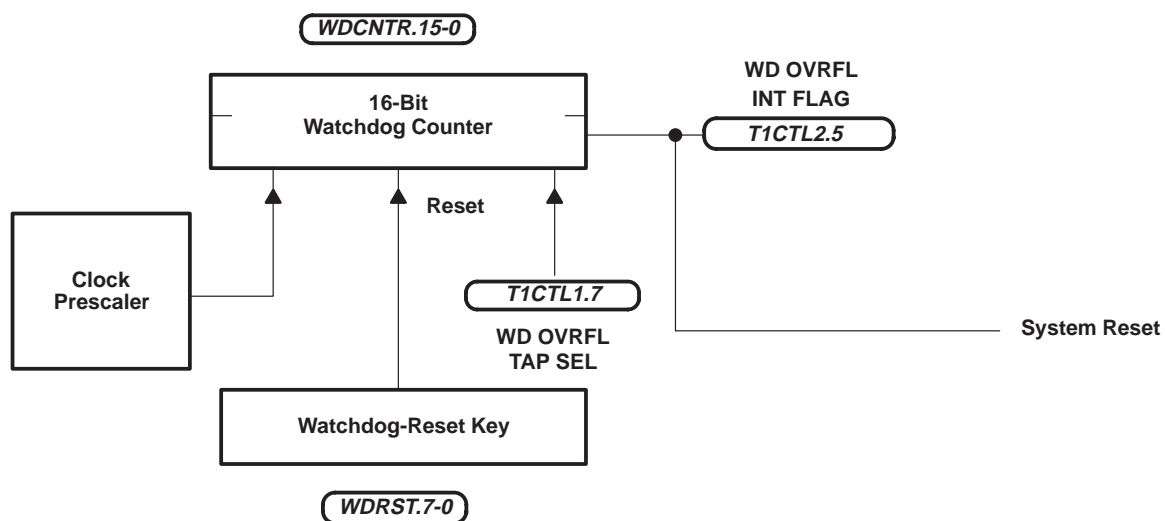

Figure 9. Hard Watchdog
- Hard watchdog configuration (see Figure 9) for mask-ROM devices: